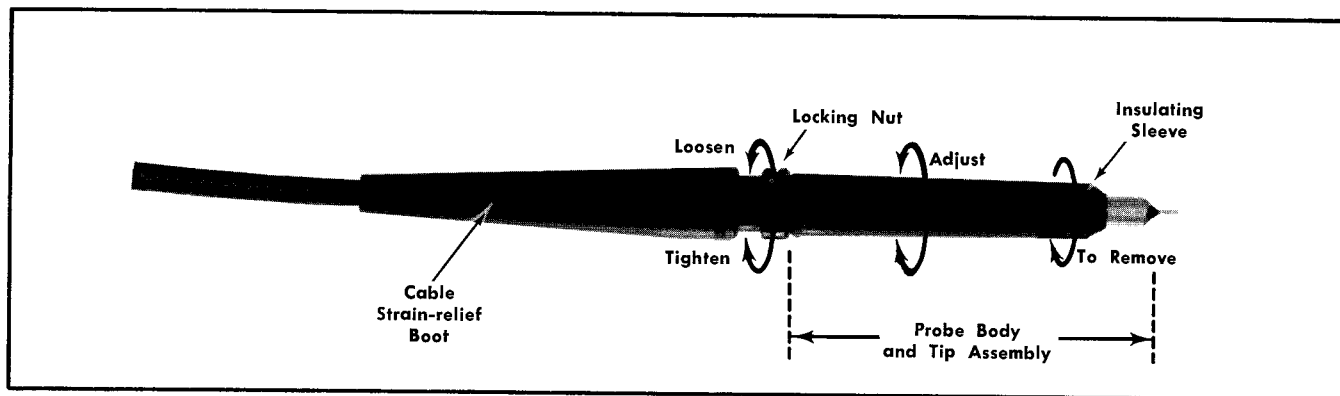

Fig. 2-4. Probe composition procedure.
12. To adjust the probe compensation, loosen the probe body and tip (shown in Fig. 2-4) by turning the locking nut counterclockwise.